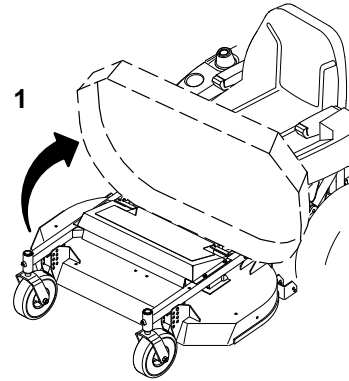

Figure 6
4. Standing in front of the mower, lift up and push rearward on front to raise mower (Fig. 6).